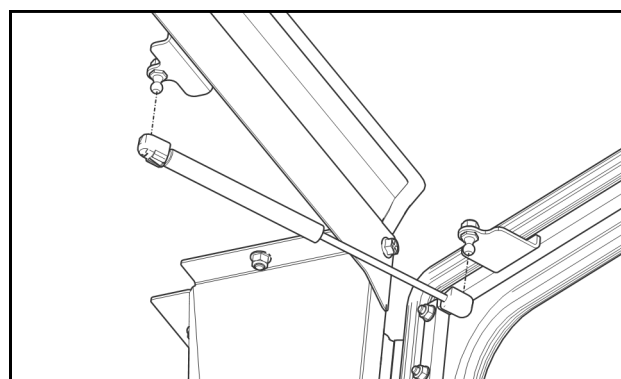

Fig. 27.5 (Door Gas Shock)
- 27.5** See fig. 27.5. With the door open, attach a gas strut to the ball studs on the side frame and door. Make sure the quick release end is on the side frame so that the gas strut stays with the door if removed for ventilation.